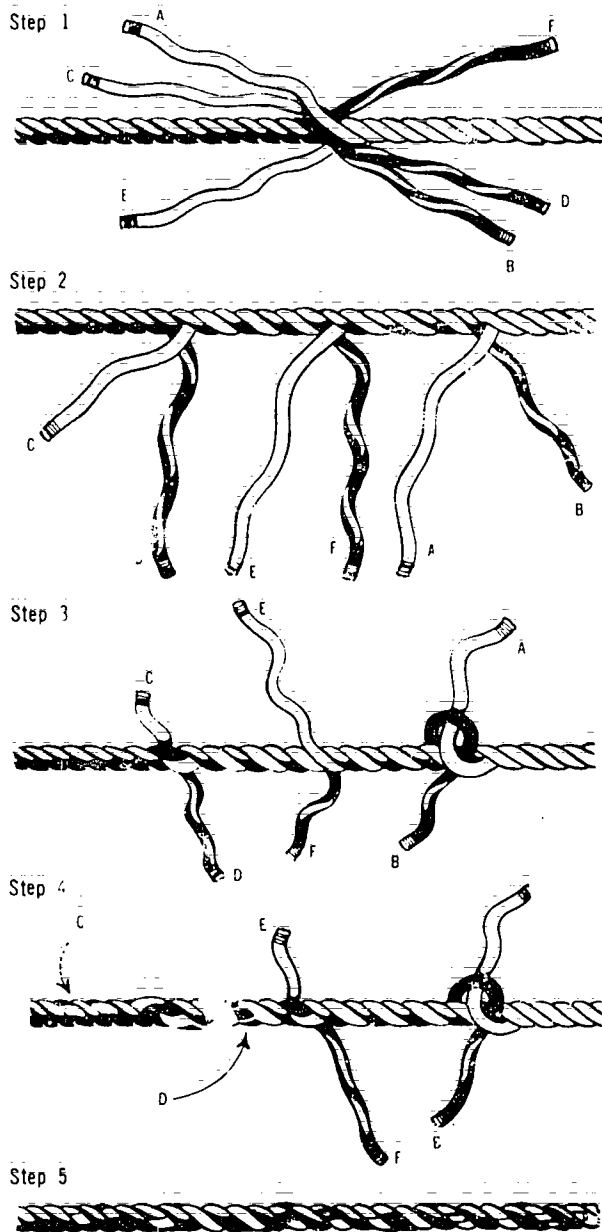

Figure 7-33. Making a Long Splice
- Step 1. To make this splice, begin by unlaying one strand of each rope for 10 or 15 turns, and whip the ends of each strand to prevent untwisting. Then lock the two ropes together by alternating the strands from each end as illustrated in Figure 7-33, Step 1.
- Step 2. Starting at one end, take an opposite pair of strands, A and B, and unlay Strand A. Follow it with Strand B, turn by turn, continuing until only 1' or less of Strand B remains. Keep Strand B tight during this step and pull it down firmly into Strand A's former place. Repeat this operation with Strands C and D. Strand D is unlayed and Strand C is laid in its place. The splice at this stage is illustrated in Figure 7-33, Step 2.
- Step 3. Now each pair of strands is tied loosely together with a simple overhand knot, as indicated by Strands A and B in Figure 7-33, Step 3. Each knot is then pulled down into the rope like Strands C and D.
- Step 4. Each strand is now tucked twice, over and under, as done in making the Short Splice. Figure 7-33, Step 4 shows Strands C and D after tucking. If a smaller diameter splice is desired, tapering can be done by tucking each strand twice more, cutting away some of the threads for each additional tuck.
- Step 5. When tucking is finished, cut all strands off close to the rope and roll the splice on the floor under your foot to smooth it out. The completed Long Splice is illustrated in Figure 7-33, Step 5.